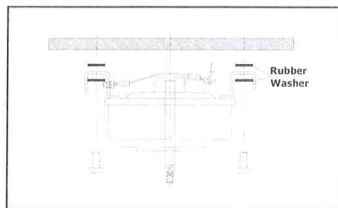

Figure 1
- Secure Motor by fastening three 1" wood screws into wooden stud with 6 rubber washers at both sides of the mounting brackets. 3 out the 6 rubber washers with adhesive paste to be stick on the top. The other 3 plain rubber washers to be placed at the bottom. See Figure 1